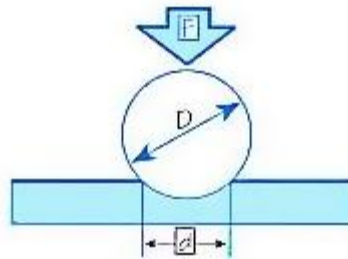

fig.8.1: Brinell hardness test
3. The specimen prepared as per the given dimensions in fig.8.1